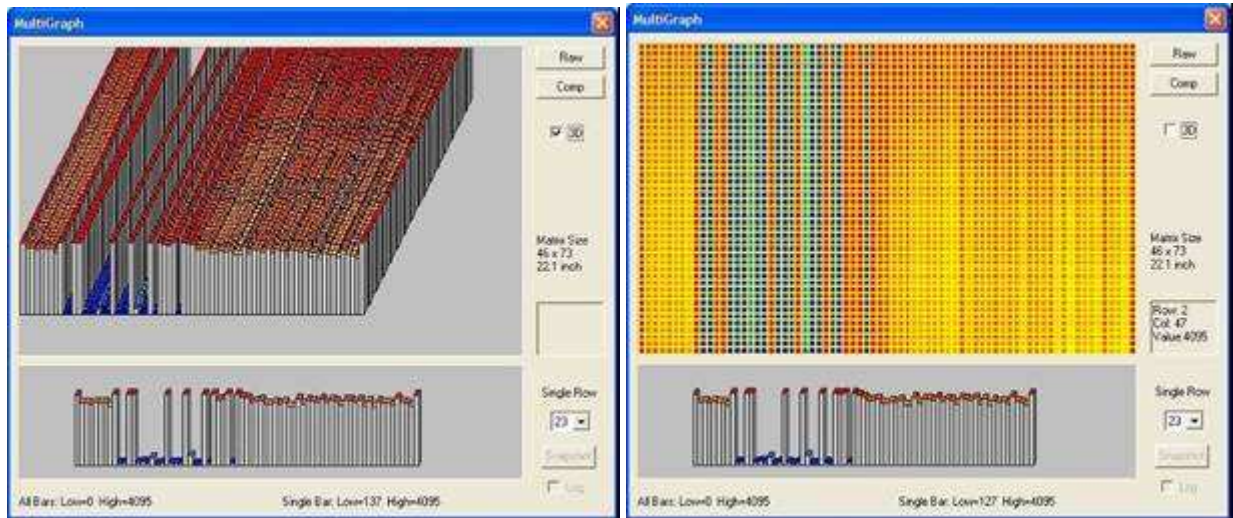

Figure 10: Illustration of dead columns (Zif slide mechanism not fully locked)
- If there are any rows or columns that are bad, they will be significantly lower than the other bars and have a different coloration. If there is a completely dead zone, the bars will be blue and appear as shown in Figure 10. **If any row/column is blue, the product should be replaced. Warning: If multiple rows or columns appear to be dead, confirm that the tail zif connector is inserted completely into the mating connector and that it is fully locked into position. The flex circuit should be confirmed to be properly inserted prior to replacing the touch screen or controller.**